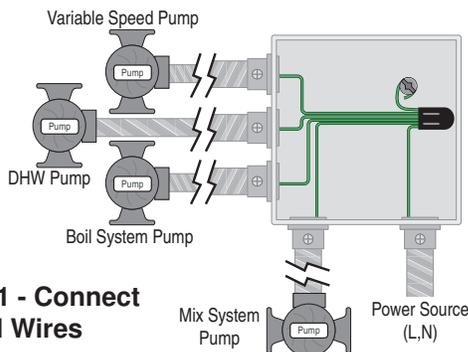

Figure 1 - Connect Ground Wires
1. Bring all pump wires into the electrical box and fasten with appropriate wire clamps. Ensure each pump is grounded with the power source ground in the electrical box, as shown in Figure 1.